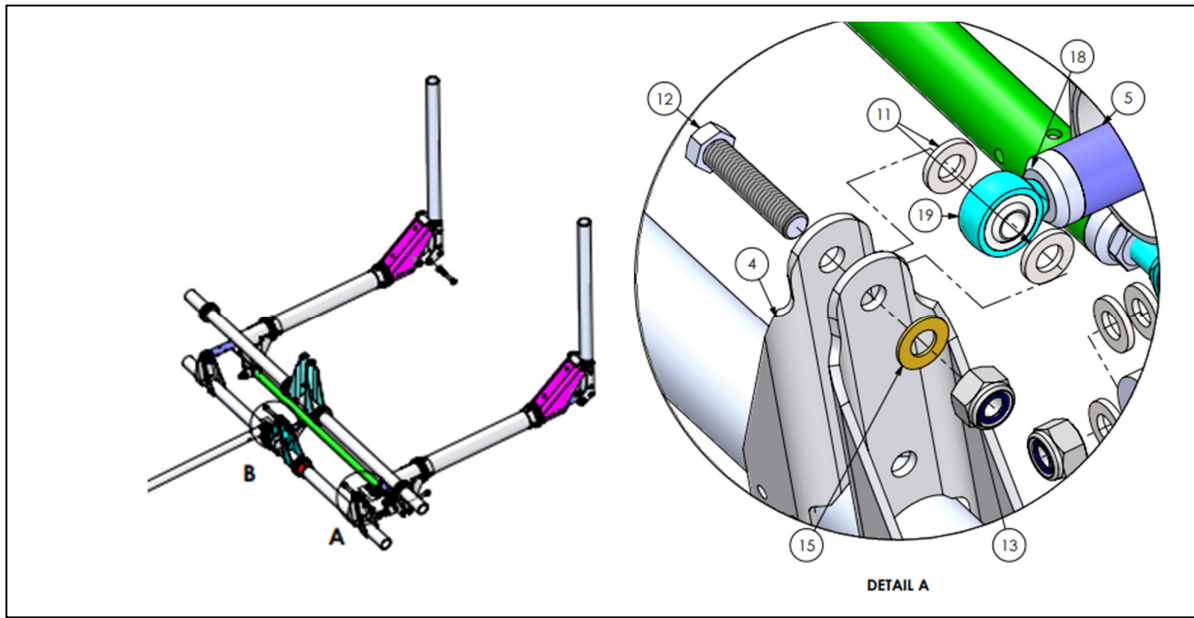

Figure 24: Eyebolt assembly, Detail A
- Step 2. Inspect the eyebolts seen in Detail A of Figure 24.
- Step 3. If *noncompliant* eyebolts have been used, they must be replaced (with either *type 1* or *type 2*). To do this remove the AN4 locknut (13) and bolt (12), as seen in Figure 24. The eyebolt can now be uninstalled from the pushrod. Once uninstalled, install a new one of either *type 1* or *type 2*.
- Step 4. Once the eyebolt has been installed onto the pushrod, reconnect the eyebolt assembly. Refer to Figure 24 for the way the assembly fits together.